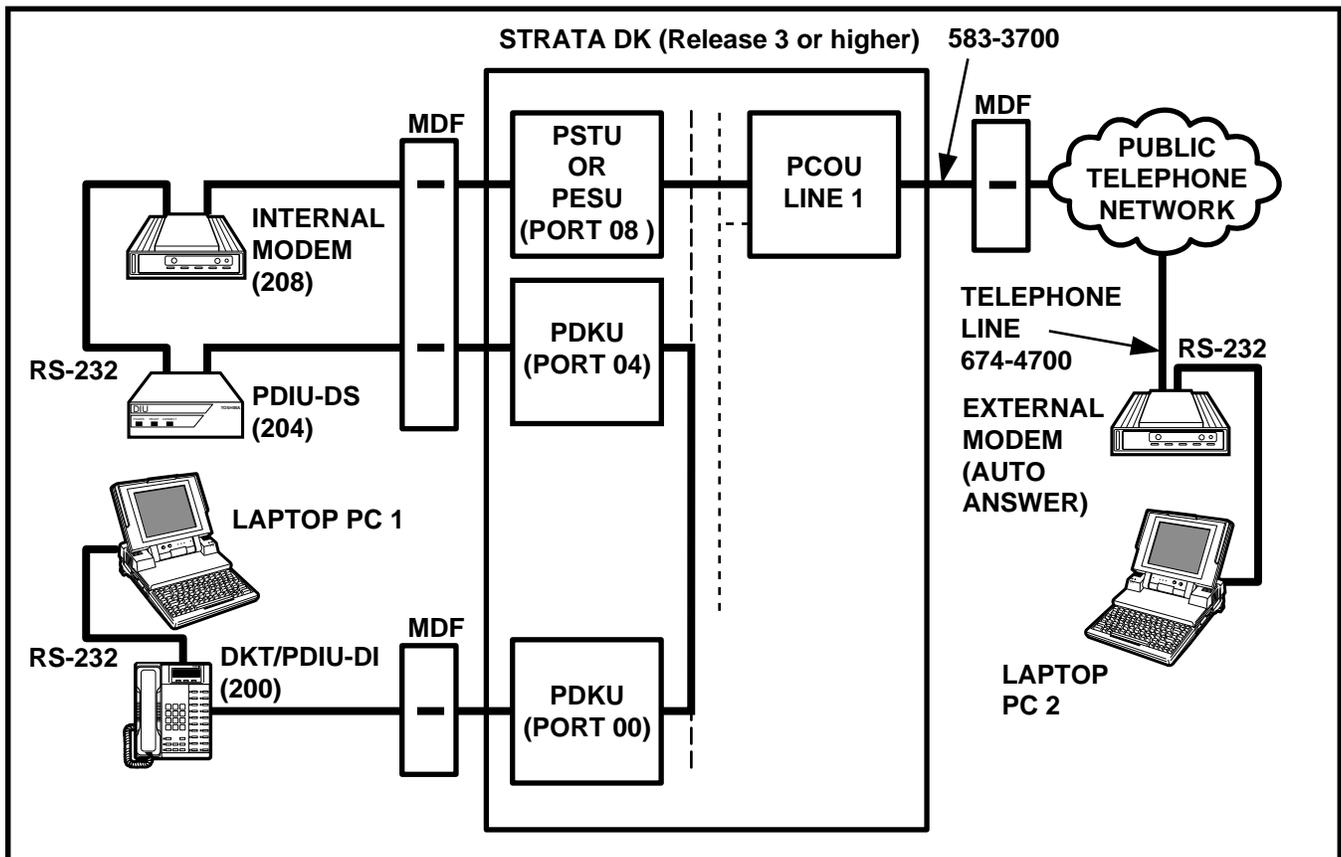

FIGURE 8-40
12.84 Internal-PC-to-External-PC Test Call Using AT Commands (see Figure 8-40)